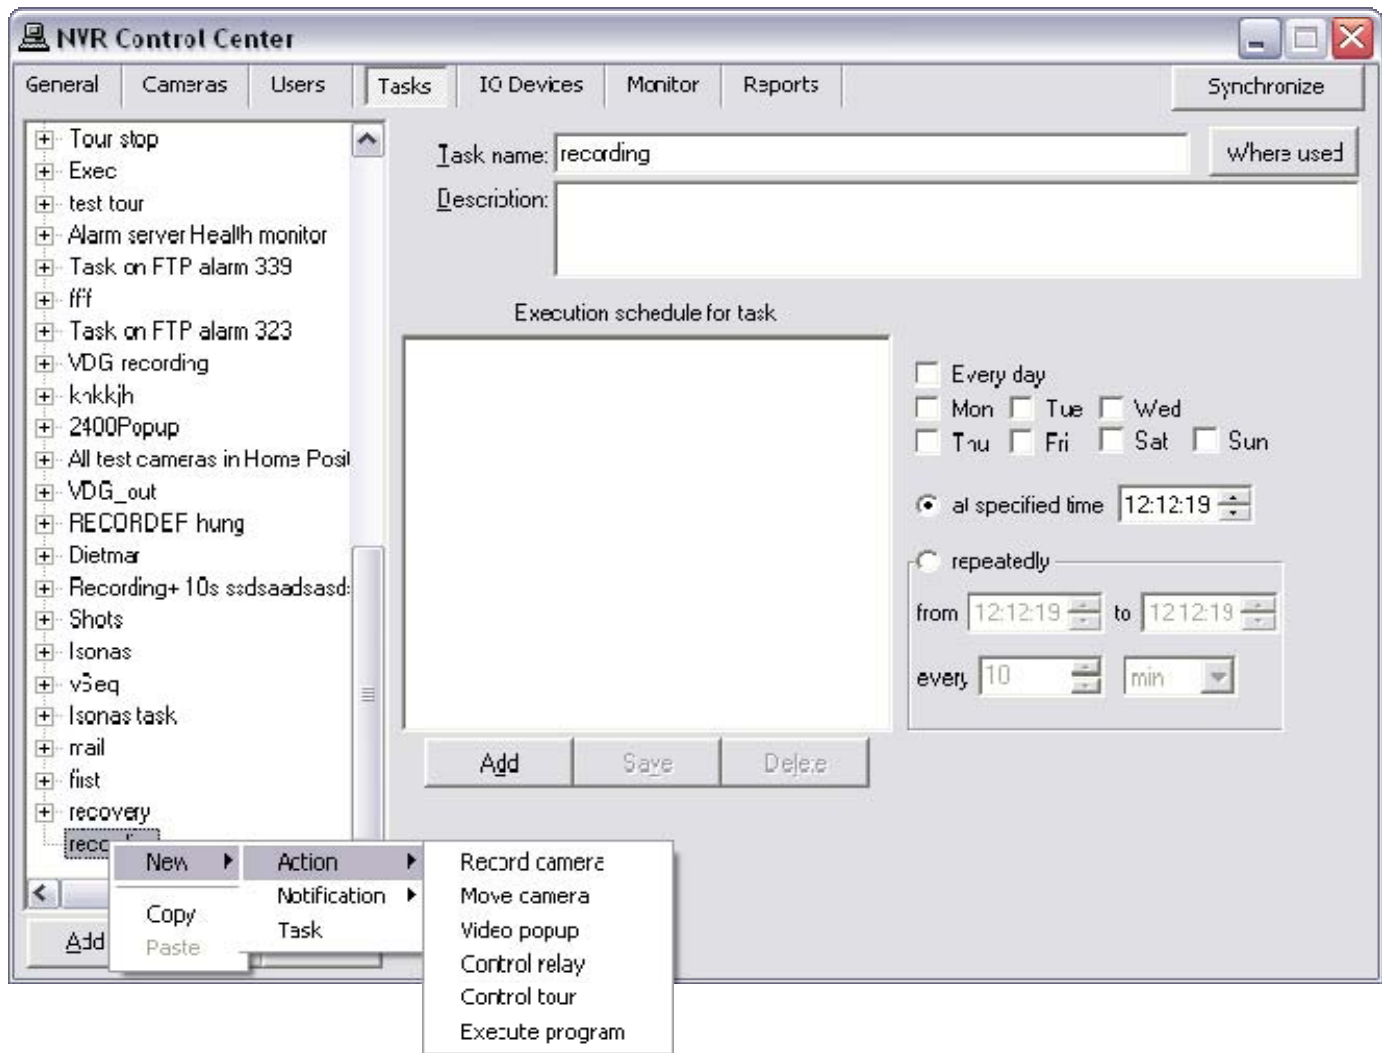

Fig 68. NVR Control Center — Tasks
1. In the **NVR Control Center — Tasks** select a task in the **Tasks** list, right-click and select **New — Action** the action's menu appears (Fig 68).